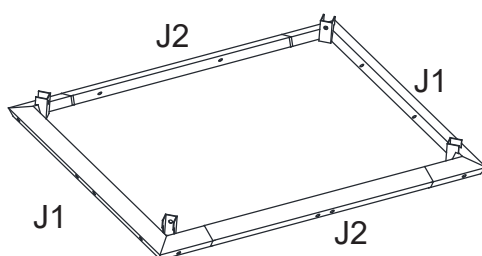

Figure 6-2
6.2. Repeat for opposite sides and ends. Tighten all Bolts. See Figure 6-2.